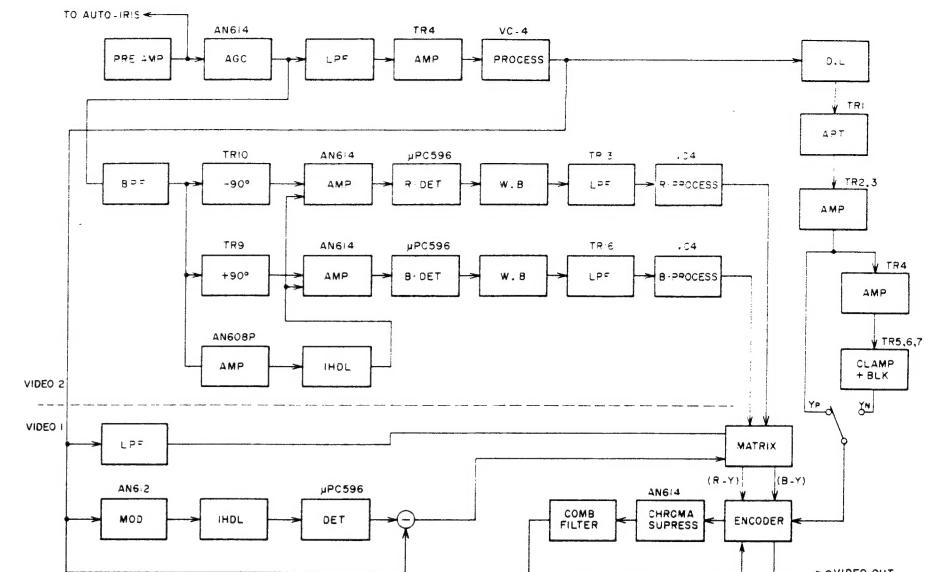
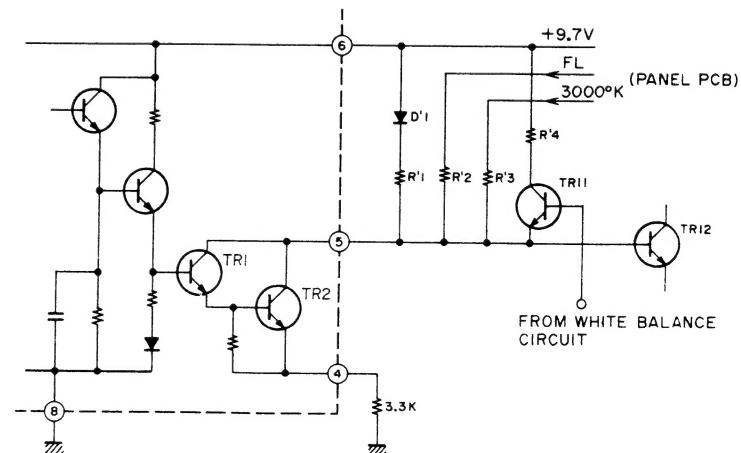

Fig. 18
Fig. 22
The video amp is made up of two P.C Boards: Video (1) and Video (2). Its block diagram is shown in Fig. 18. Output from the pre amp is clamped by TRI and then supplied to pin ① to IC1 (AN614).
With the VC-X1, the white balance circuit is preceded by the detection circuit for 3.8 MHz-modulated waves (R and B) produced in the color separation circuit. (See Fig. 18). Fig. 22 shows the white balance circuit connections.
The Circuit shown in Fig. 22 is used to switch between TR11 (R-channel) and TR11' (B-channel). The color temperature at the switching point between 3000°K and 5500°K is around 3700°K .